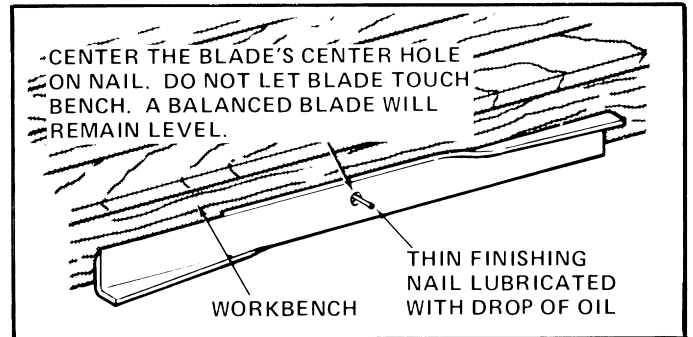

FIG. 8
- To check and balance blade use a balancing machine or, fixture as shown in figure 8. File material off heavier end of blade until it is balanced.